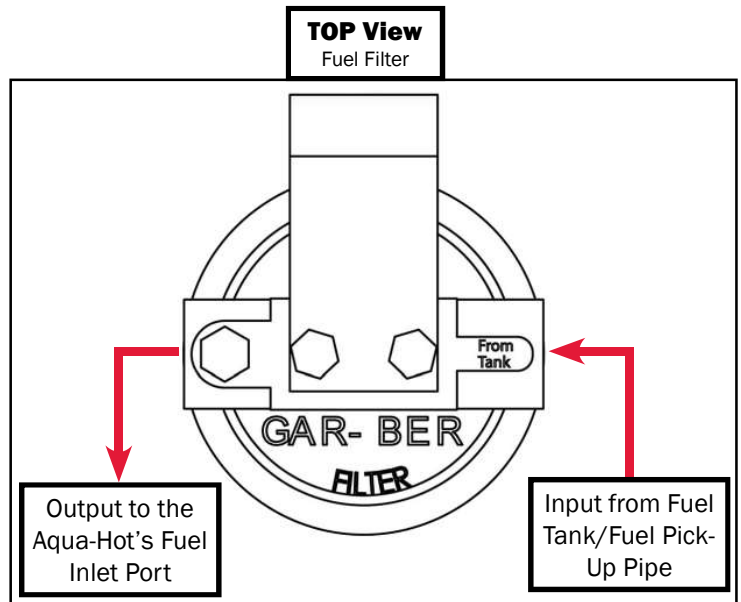

Figure 34
NOTE: Ensure that the fuel filter is installed with correct flow in mind as referenced in Figure 34.
2. Install and tighten the fuel fittings onto the two ports of the fuel filter. Reference Figure 34 for the correct connection configuration.
5. Cut the fuel line at the fuel filter mounting location and connect the fuel lines as illustrated in Figure 34.